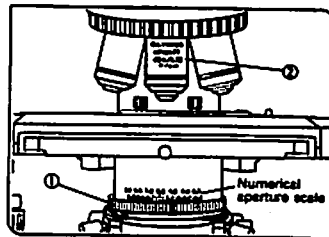

Fig. 54
Set the condenser numerical aperture scale ① to about 80% of the NA value ② indicated on the objective. (Fig. 54)